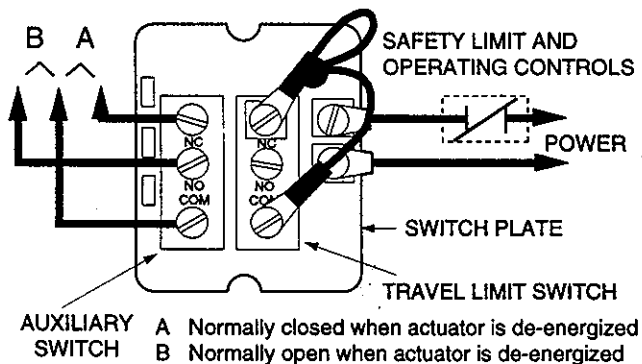

Figure 3. Typical Wiring
If burner manufacturer has furnished a wiring diagram follow it carefully. Typical wiring connections are shown in figure 3.
- Limit controls must be capable of handling electrical load shown on actuator/valve nameplate (volts, frequency, VA). Use #16 wire or larger, suitable for 167° F (75° C). Wire limit controls in hot side of circuit (See figure 3).
- Do not connect additional wiring to travel limit switch (See figure 3).